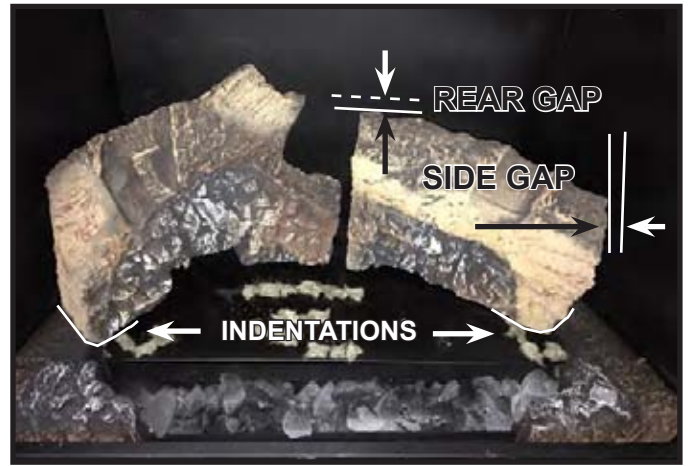

Figure 5. Rear Right Log Installed
The log pins, along with the indentations in the hearth components, will aid in correctly positioning the two rear logs and small burner log. The indentations are shown in Figure 5.
Additionally, the rear left log and rear right log are located by indentations in the right and left hearth components. See Figure 5.
1. Remove large rear left log from the packaging and install the log by locating it on the back left log pin(s). The left side of the log will reside within the indentation in the left hearth component. See Figure 5.
2. Remove the large rear right log from packaging and install it by locating it on the back right log pin. On some models, it may be necessary to lift the rear left log slightly to install the rear right log. The right side of the log will reside within the indentation in the right hearth component. See Figure 5.
**550X-AU Models:** The rear right log will be positioned to maintain about a 1 in. (25 mm) rear gap between the rear right log and the back wall refractory. The rear right log maintain a 1 in. (25 mm) gap from the right wall. See Figure 5.